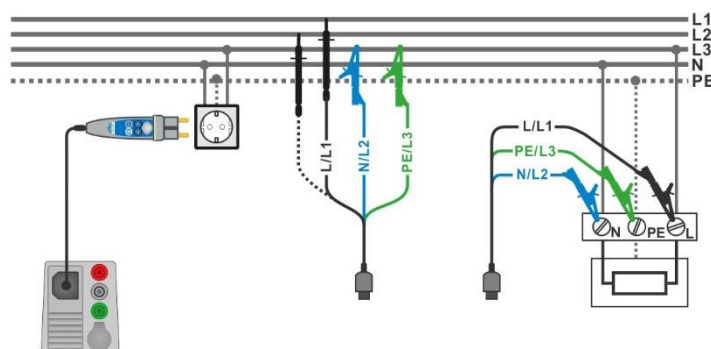

Figure 7.113: AUTO TN measurement
- Connect 3-wire test lead or Plug commander to the object under test, see **Figure 7.113**.